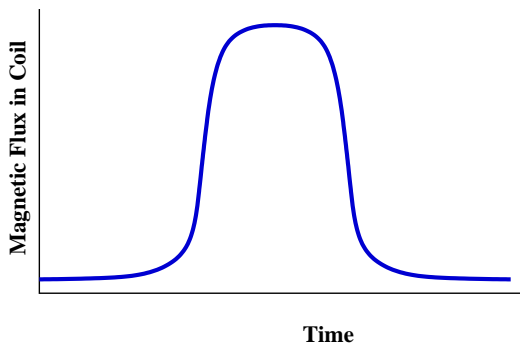

Figure 10: A plot of the magnetic flux in the coil as a function of time
- (b) The use of a diode in the circuit? Hint: see Figure 10